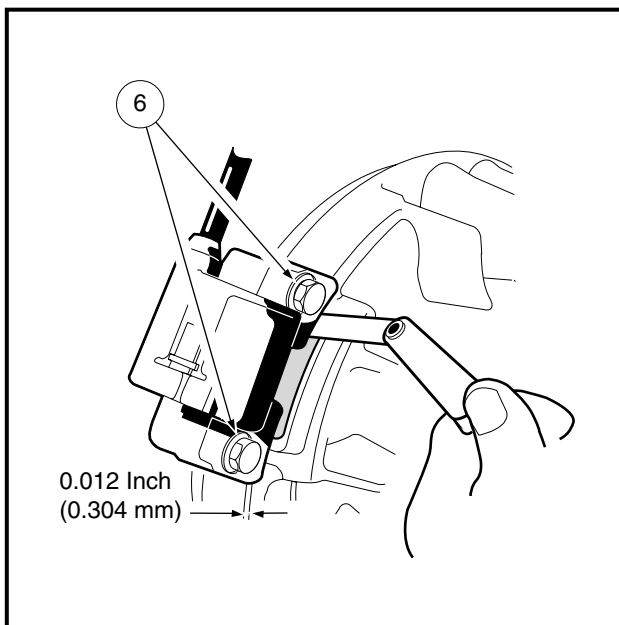

Figure 12b-28 Mount Ignition Coil Using Feeler Gauge
11. Connect the 18-gauge black wire (12) to the spade terminal (13) on the coil (11) (**Figure 12b-26, Page 12b-27**).